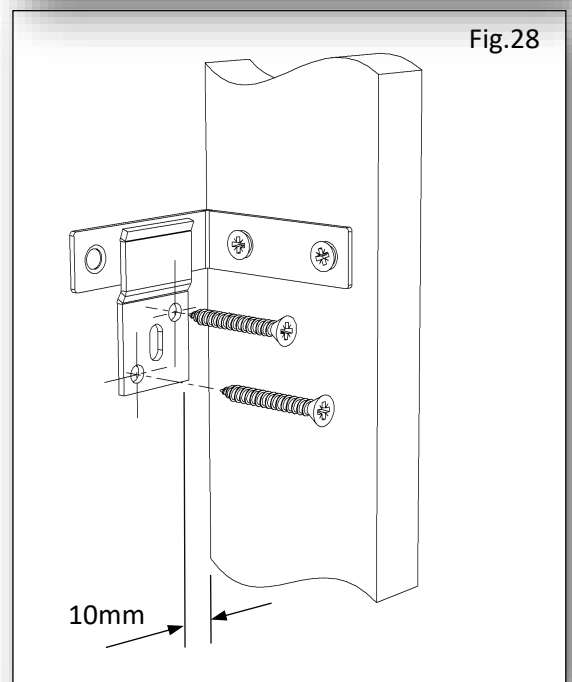

Fig.28
37. With the Suite in position. Lightly scribe the wall in line with outer edges of the Suite. Lift the Suite away from the wall. Measure inwards from the previously scribed line the thickness of the Suite leg plus 10mm. Fig.28.
38. Fix the 2x Wall brackets (C) in place using the appropriate fixing dependent on the type of wall material (**Fixings are not supplied – See Page 13**). Ensure Mantel Brackets (B) will fall halfway between the folds on the Wall Brackets (C). Fig.28.